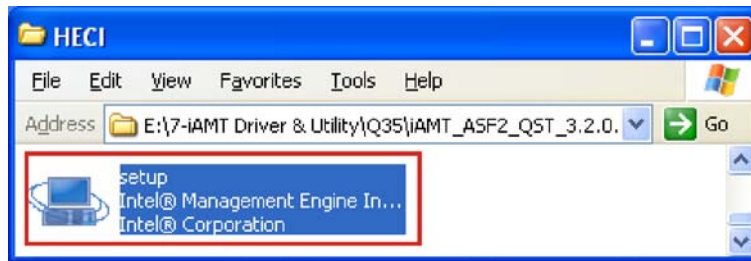

Figure 6-32: AMT HECI Driver Directory
Step 2: Browse to the "HECI" folder (**Figure 6-32**).